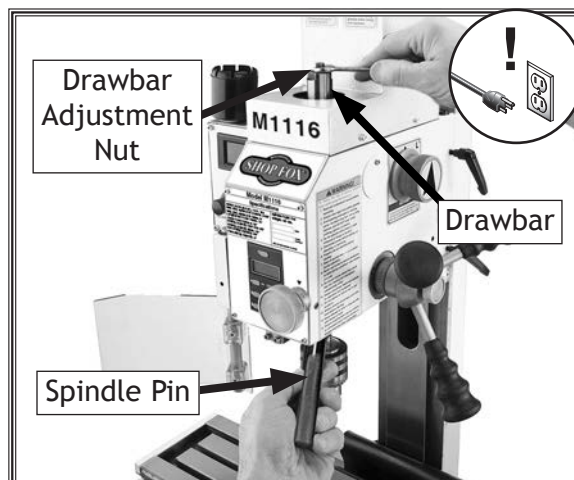

Figure 25. Components used when installing or removing tooling.
3. Align tool slot (see Figure 25) with pin inside spindle, then insert tooling into spindle until in contacts drawbar.
Note: Height of drawbar inside spindle can be changed by rotating adjustment nut (see Figure 25).
5. Secure spindle with spindle pin and tighten drawbar with wrench, as shown in Figure 25.
2. Remove drawbar cap and secure spindle with spindle pin, as shown in Figure 25. Unthread drawbar from tooling one full rotation.